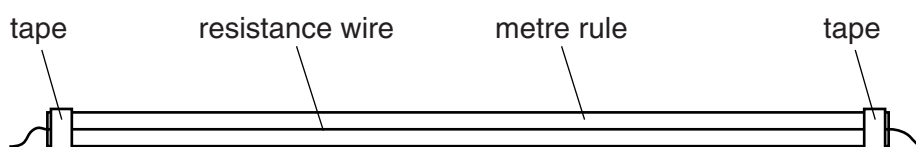

Fig. 1.1
- 4 Attach a length of resistance wire to each metre rule using adhesive tape, as shown in Fig. 1.1, leaving approximately 2 cm of wire at each end.